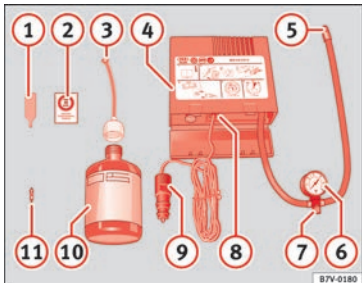

Fig. 60 Standard representation: contents of the anti-puncture kit.
- Unscrew the tyre valve cap and insert. Use the » Fig. 60 ① tool to remove the insert. Place it on a clean surface.
- Shake the tyre sealant bottle vigorously » Fig. 60 ⑩.
- Screw the inflator tube » Fig. 60 ③ into the sealant bottle. The bottle's seal will break automatically.
- Remove the lid from the filling tube » Fig. 60 ③ and screw the open end of the tube into the tyre valve.
- Place the insert back into the tyre valve using the tool » Fig. 60 ①.
- Screw the compressor tyre inflator tube » Fig. 60 ⑤ into the tyre valve.
- Check that the air bleed screw is closed » Fig. 60 ⑦.
- Insert the connector » Fig. 60 ⑨ into the vehicle's 12-volt socket » page 134.
- Turn the air compressor on with the ON/OFF switch » Fig. 60 ⑧.